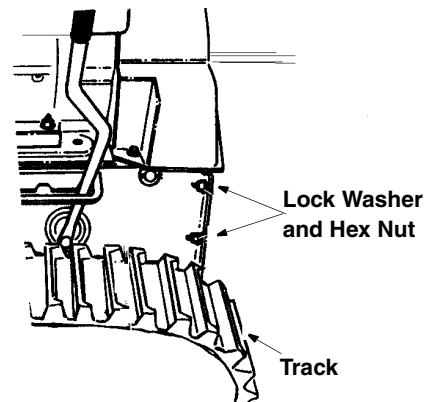

Figure 26
- Remove the six lock washers and hex nuts which attach the auger housing assembly to the frame. See Figure 26. (Only two pairs of lock washers and hex nuts are shown in the figure.)